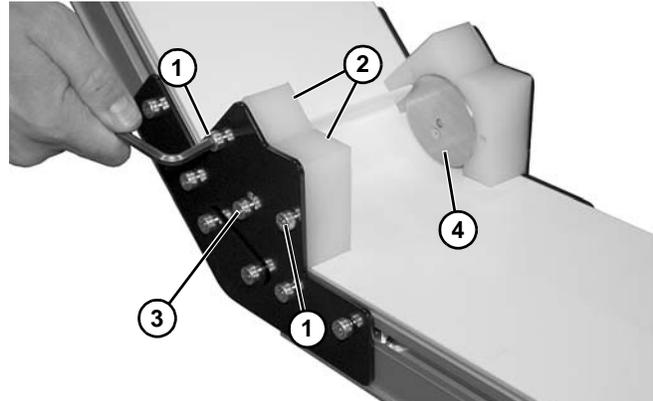

Figure 133
- If equipped with a lower knuckle, remove screws (**Figure 133, item 1**) and remove guards (**Figure 133, item 2**) on both sides of knuckle.
- Remove screws (**Figure 133, item 3**) and remove roller bearing assembly (**Figure 133, item 4**) on both sides of knuckle.